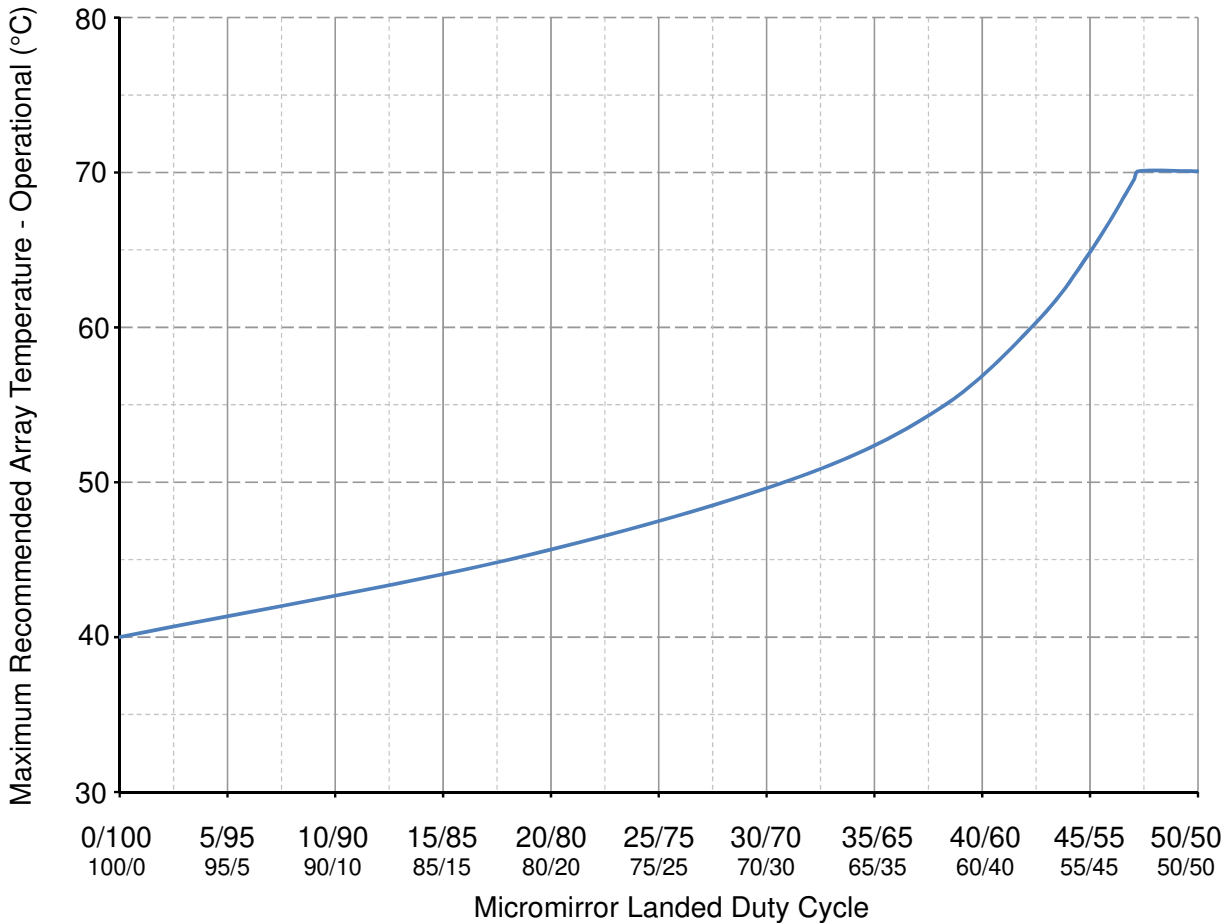

Figure 6-1. Max Recommended Array Temperature—Derating Curve
- (14) Per 図 6-1, the maximum operational array temperature must be derated based on the micromirror landed duty cycle that the DMD experiences in the end application. See セクション 7.7 for a definition of micromirror landed duty cycle.
- (15) Long-term is defined as the usable life of the device.
- (16) Array temperatures beyond those specified as long-term are recommended for short-term conditions only (power-up). Short-term is defined as cumulative time over the usable life of the device and is less than 500 hours.